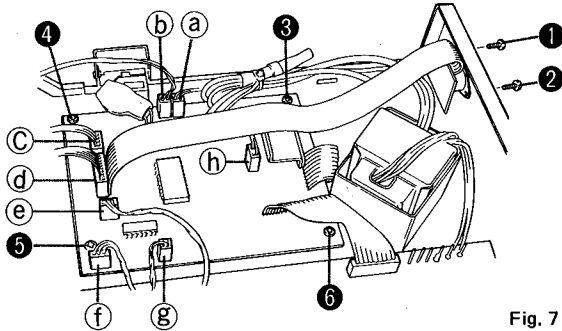

Fig. 7
2. Remove the remote control socket P.C. board and its connector from the rear panel (screws 1 and 2 in Fig. 7).
1. Disconnect connectors (f) and (g) on the logic control P.C. board. (See Fig. 7.)